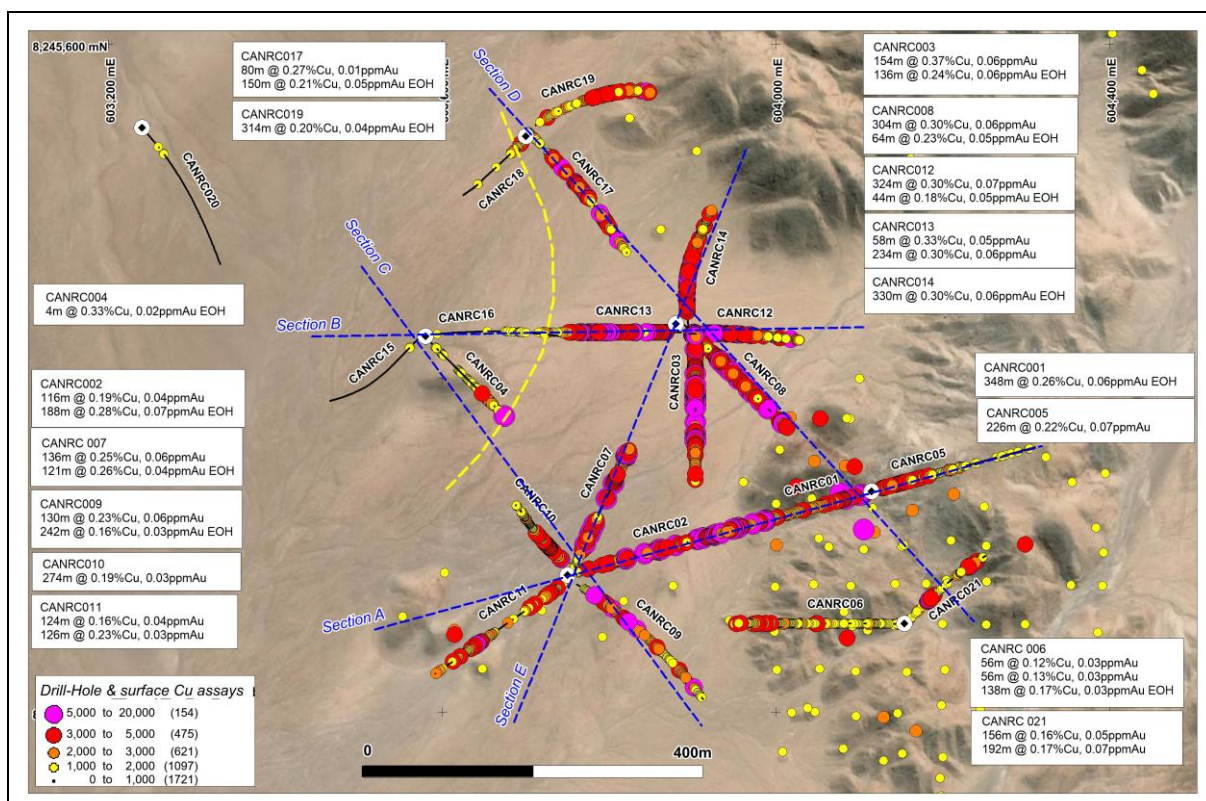
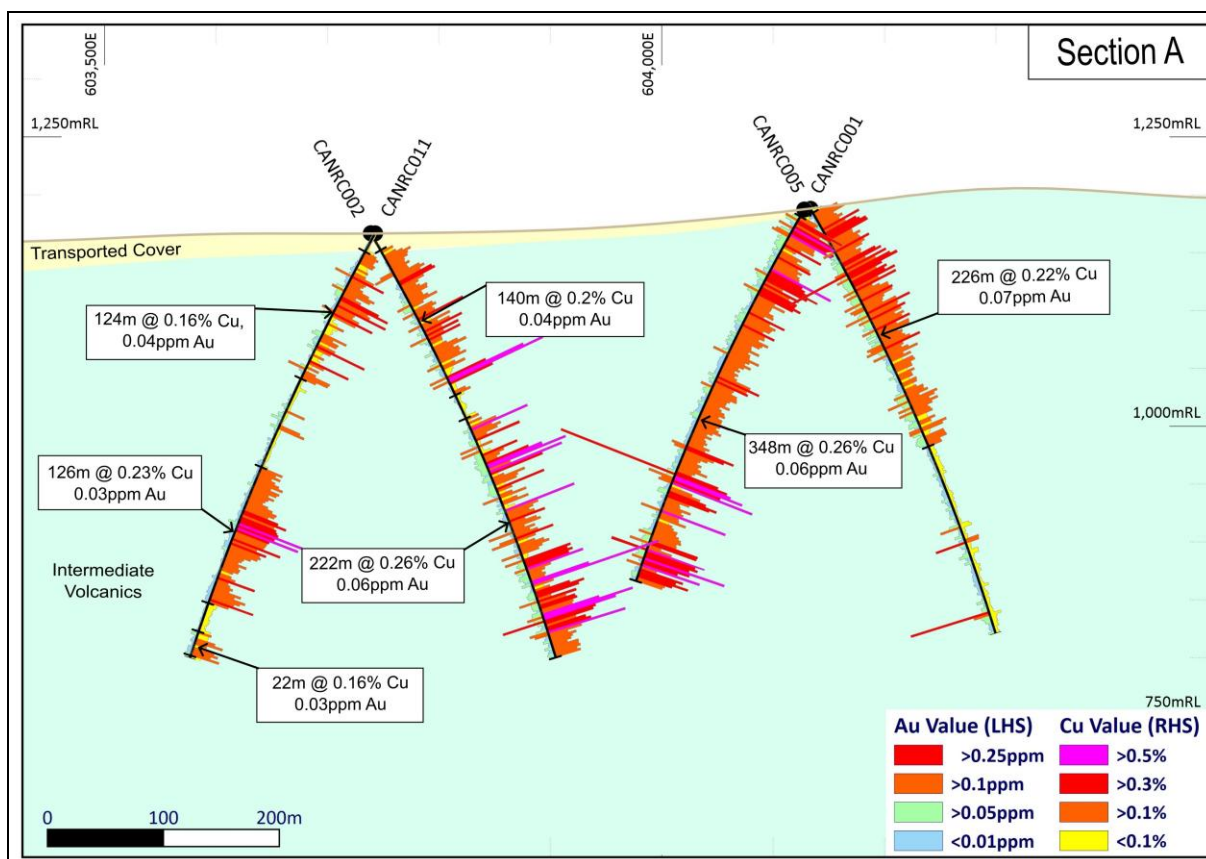

Figure 1: Cangallo Prospect showing drill-hole locations and assay results.
Figure 3: Cangallo Drill Section A showing RC drill traces with copper grades to the right and gold grades to the left plus quoted intersections.
AusQuest Limited ("AusQuest" or the "Company") (ASX: AQD) is pleased to report assay results from the remaining Reverse Circulation (RC) drill-holes from the Stage 2 drilling program at its 100%-owned Cangallo Project in southern Peru (*Figure 1*).
Broad zones of copper mineralisation – both oxides (malachite, chrysocolla and atacamite) and sulphides (chalcopyrite, bornite and chalcocite) – have been intersected in six of the nine remaining drill-holes with significant assays provided in Table 1 below and drill-hole locations shown in Figure 1. Drilling cross-sections A to E are provided as Figures 3 to 7 at the end of this release.
Figures 3 to 7 below provide Cangallo RC drill sections as shown on Figure 1.